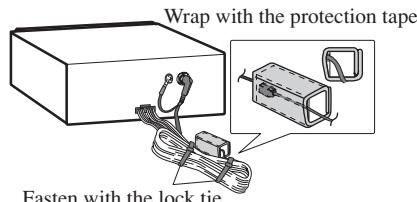

Fig. 10
• When installing the optical cable connection box with the lock tie. (Fig. 10)